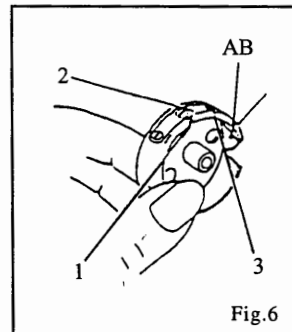

Fig.6
Pull the thread into slot (1) and under the tension spring (2) and into slot (3) as shown in Fig.6. Then draw thread into delivery eye (A or B), as shown in Fig.6. Use delivery eye (A) for sewing light weight material, as shown in Fig.7.